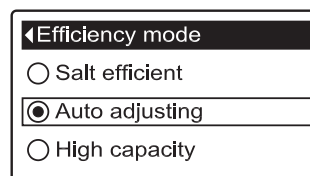

FIG. 70
8a. Efficiency mode: If the desired efficiency mode already has a black dot next to it (See Figure 70), go to Step 9. Otherwise, press the DOWN (▼) or UP (▲) buttons to scroll to the desired efficiency mode, then press SELECT (O) to choose it.